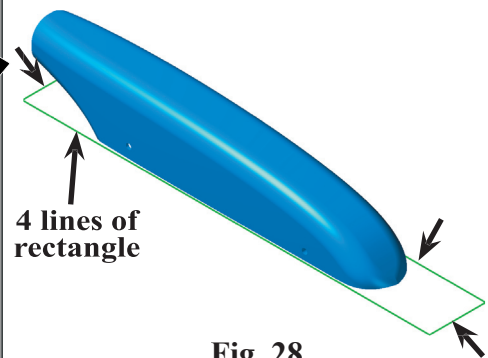

Fig. 28
Step 2. Click the lines of the rectangle, Fig. 28.